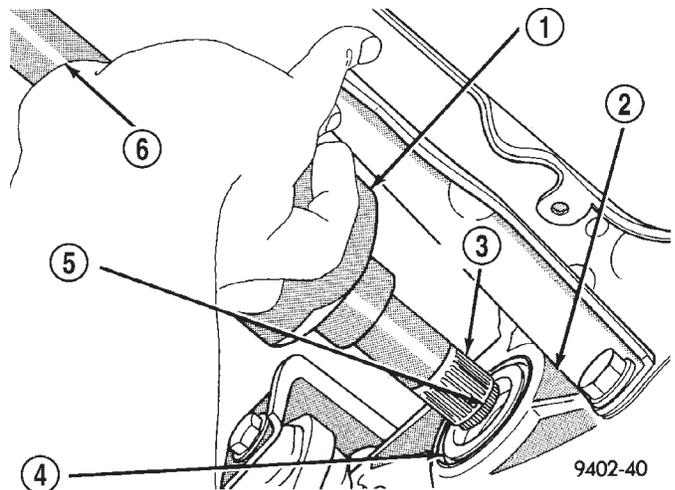

Fig. 11 Tripod Joint Removal from Transaxle
(12) Hold inner tripod joint and interconnecting shaft of driveshaft assembly (Fig. 11). Remove inner tripod joint from transaxle by pulling it straight out of transaxle side gear and transaxle oil seal. **When removing tripod joint, do not let spline or snap ring drag across sealing lip of the transaxle to tripod joint oil seal. When tripod joint is removed from transaxle, some fluid will leak out.**